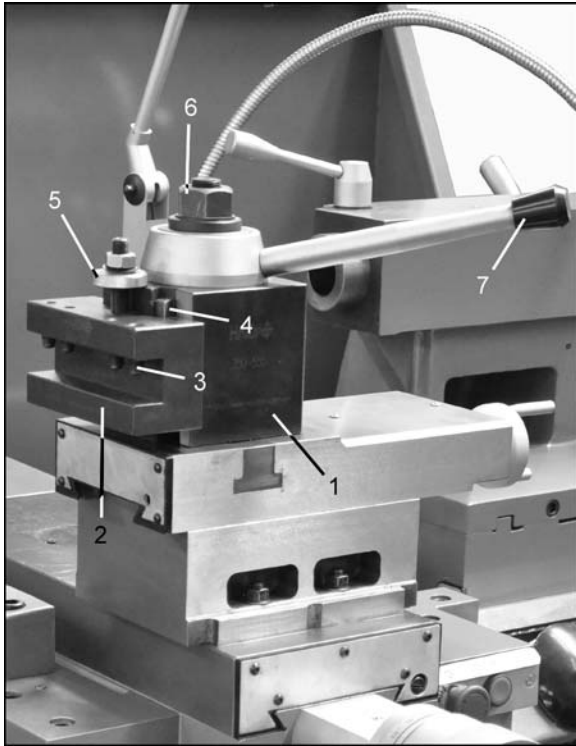

Figure 49 – Tool post adjustment
The whole tool post can be fixed by the top nut (6). Tool shank can be fixed to the tool holder by its screw (3) (see Figure 49).